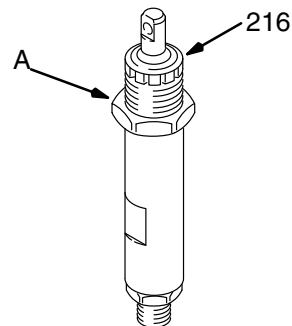

Fig. 35 02578
13. Tighten the packing nut (216) hand tight. Screw the cylinder locknut (A) down to the bottom of the external cylinder threads. See Fig. 35.